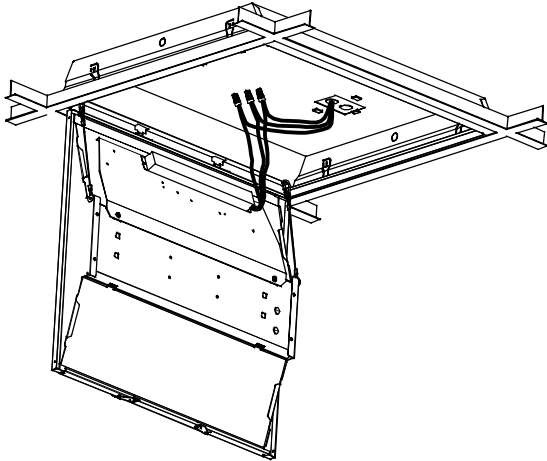

Figure 3
- Connect wires according to wiring diagram. If there is no ground wire, add ground wire to the original Troffer Housing(See Figure 3)